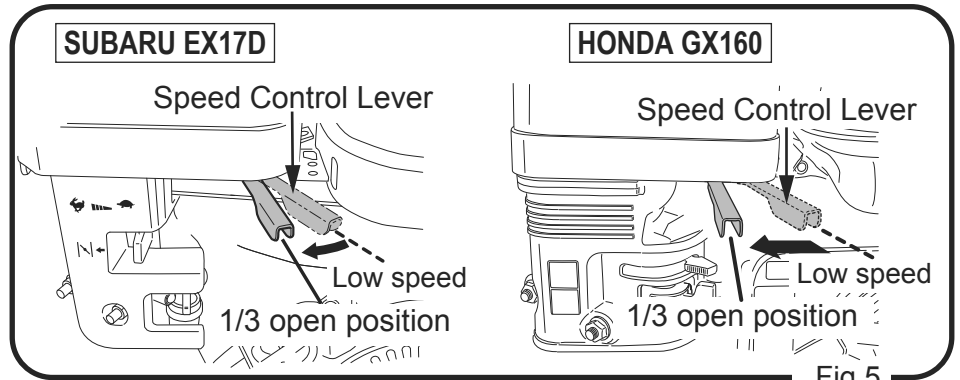

Fig.5
Move the speed control lever from low speed (L) to high speed (H) and set it at about 1/3 open position. (Fig.5)